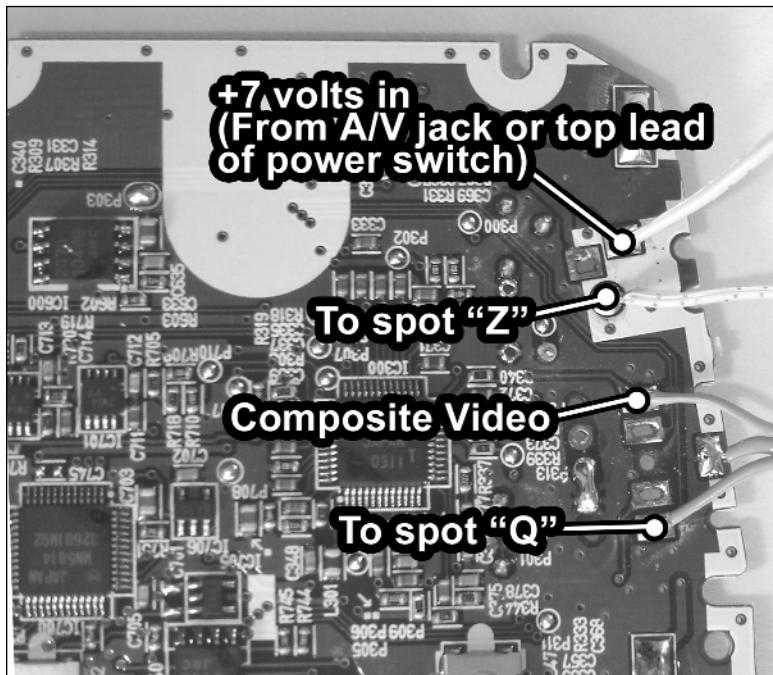

FIGURE 17-12: Audio, video, and power connections to the TV's circuit board.
3. Figure 17-12 shows the connections to make from the lower TV circuit board to the Atari. The “Composite Video” refers to the output of the video circuit you built in Chapter 15.
- Check that power is getting to the power switch (from the DC AUX input jack) and that power is going from the switch to the TV's circuit board (see Figure 17-12, earlier in this chapter).
- The TV gets its ground from the Atari (the spot Z connection shown in Figure 17-12). If the Atari's ground is not properly connected to the DC AUX input jack, then neither it nor the TV will work.
- Check that the wire between the composite video out on the Atari is connected properly to the TV's circuit board (Figure 17-12, earlier in this chapter).